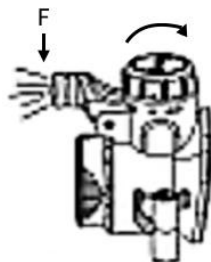

Fig. 7
7. Rotate the battery switch cover clockwise 30° to activate the LED light (F) (Fig. 7).